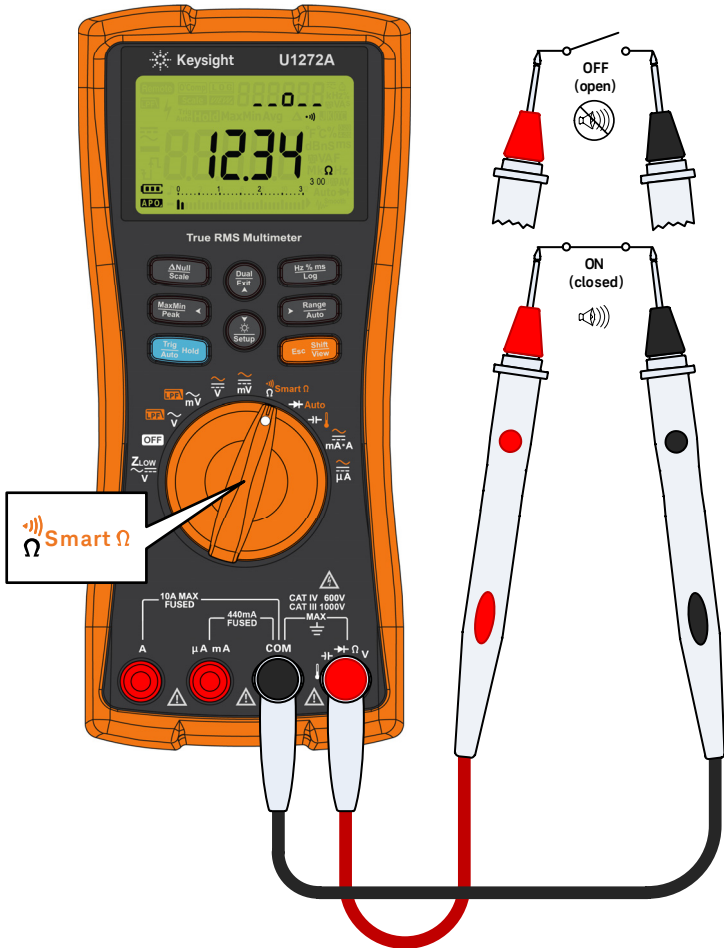

Figure 2-16 Testing for continuity
- 1 To perform a continuity test, position the rotary switch to  Smart Ω /  and set up your multimeter as shown in Figure 2-16.